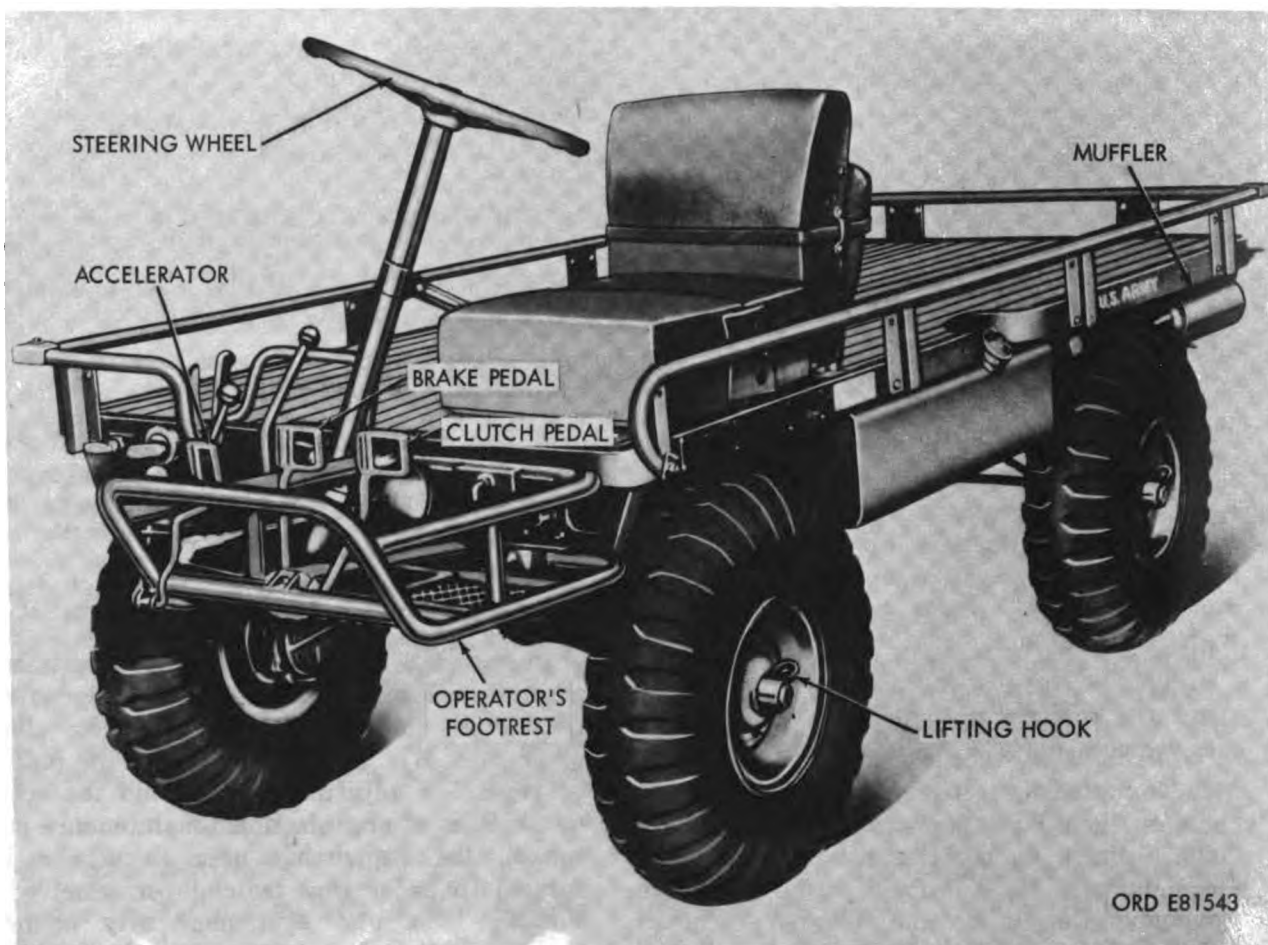

Figure 1-1. 1/2-ton, 4 × 4, platform utility truck—lift front view.
a. This technical manual contains instructions for organizational maintenance of the 1/2-ton, 4 × 4, Platform Utility Truck M274 series vehicles equipped with A042 engines (figs. 1-1 and 1-2), as well as descriptions of major components, shipping, storage, and demolition instructions.